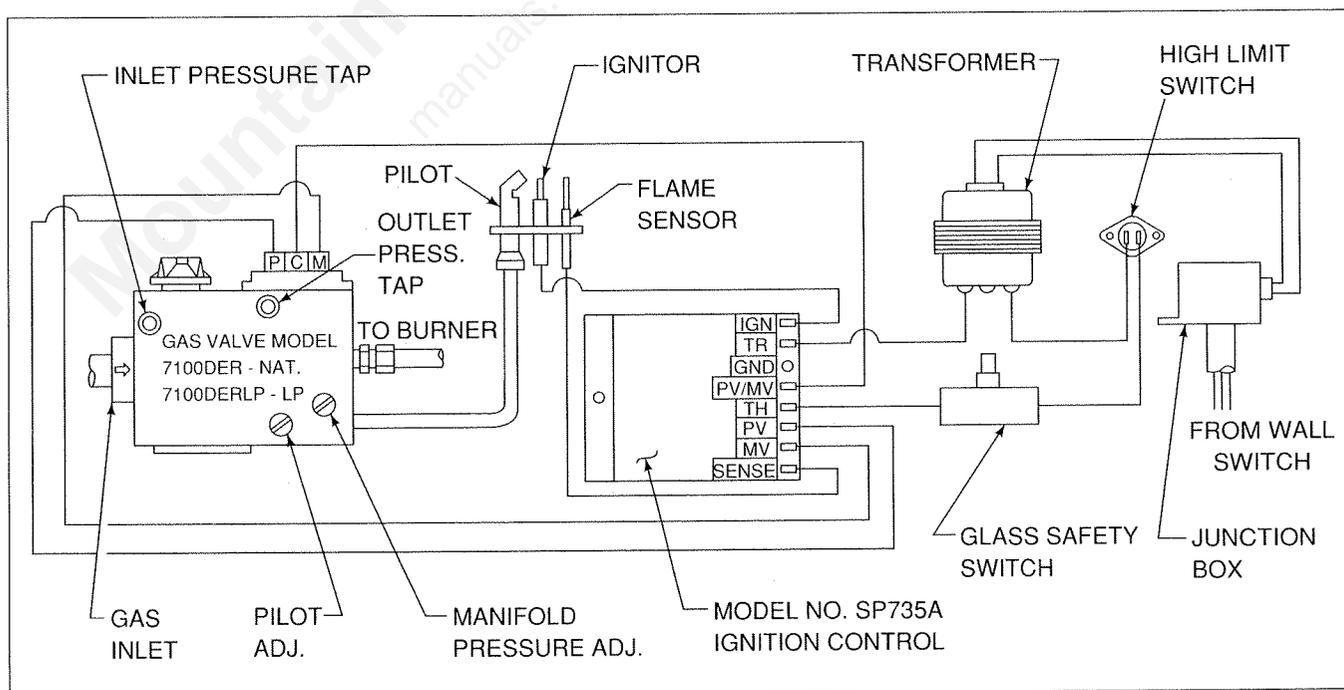

Figure 12
Remote wall switch hook-up should be installed in a convenient location. Follow Figure 12 for wiring diagram. If the optional Remote Control (RC5) is to be used, it should be installed at this time. A separate wiring diagram is included with the RC5.
1. Remove the pilot adjustment cap. See Figure 12.